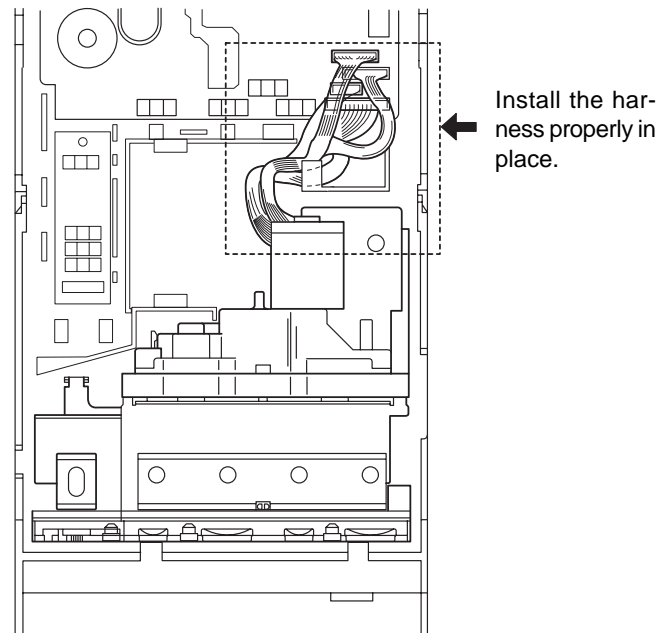

Figure 9
2. Plug in connectors and guide the harness back in place. (See the Figure 9.)